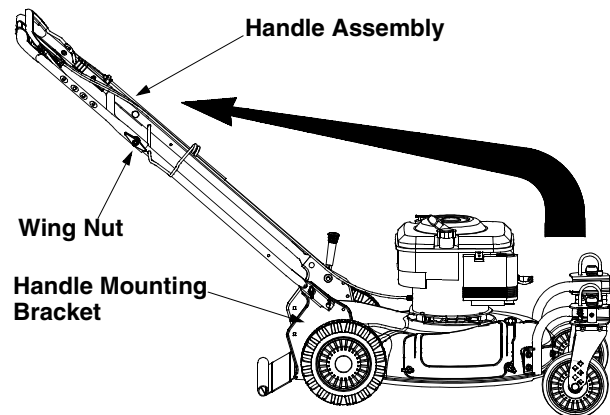

Figure 3
- Lift up and pull back on the upper handle to raise the handle into the operating position. See Figure 3. Make certain the lower handle is seated securely into the handle bracket assemblies.
- Tighten wing nuts on each side of the handle making sure that the carriage bolts are seated properly into the handle. See Figure 3.